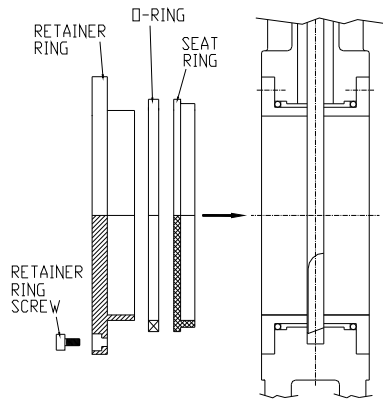

Figure 6
- B. Remove the retainer ring bolts and slide the assemblies out from both sides of the valve as shown in figure 6.